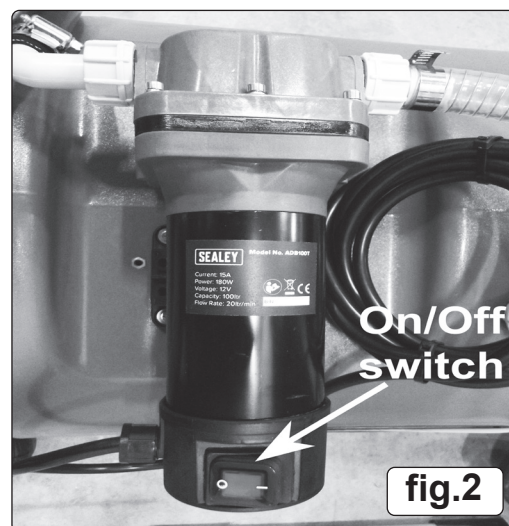

fig.2
- 4.3.1. Before connecting to a battery, make sure that the pump switch (fig.2) is in the 'off' (O) position.